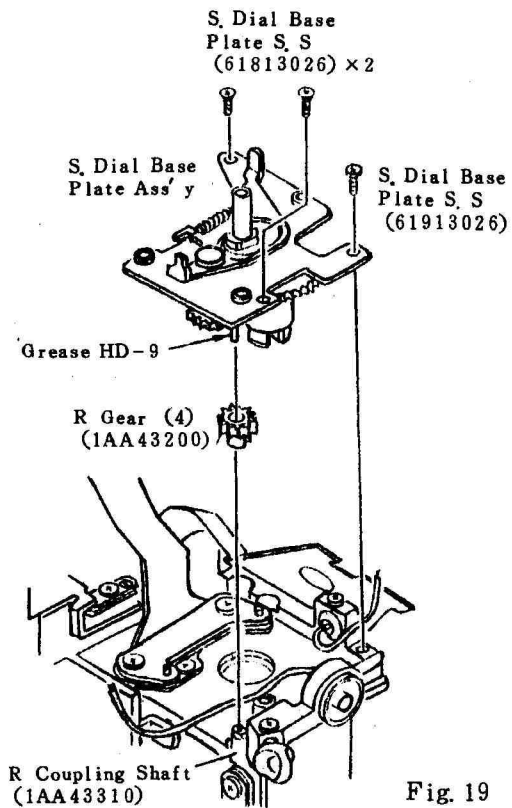

Fig. 19
- a) Pass the following through the Shutter Time Code Board: ③ Blue Lead Wire from the Synchro Socket and ② Gray Lead Wire from the Shutter Time Code Board.
5. Remove the Rewind Gear (4) (1AA43200).
6. Pull straight up to remove the Rewind Coupling Shaft (1AA43310) (See Fig. 19)